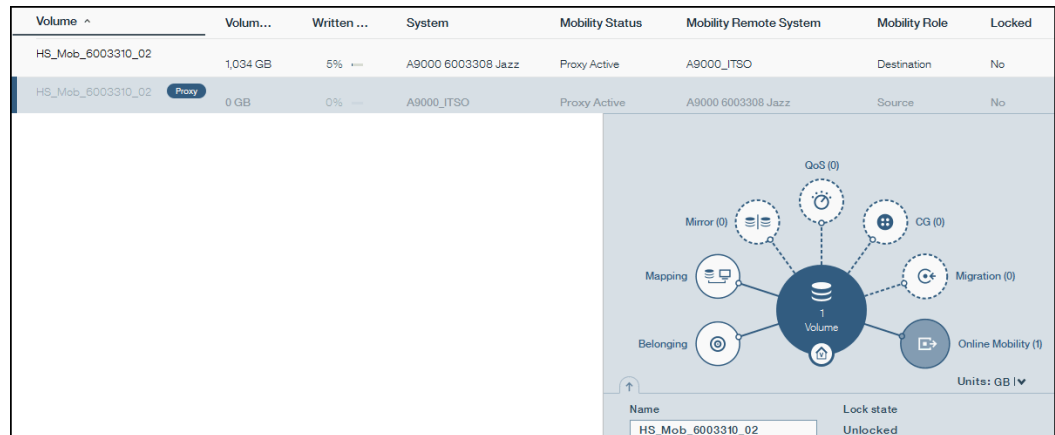

Figure 3-27 Online Mobility spoke for the source volume
1. From the Volumes tab in the Hyper-Scale Manager, select the source volume and choose the Online Mobility spoke in the Hub view to the right, as shown in Figure 3-27.